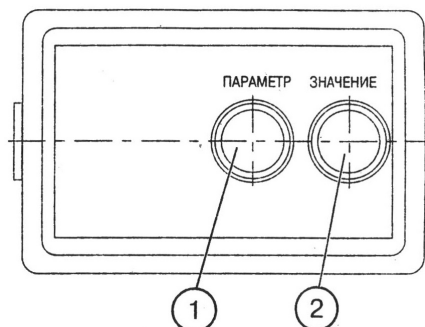

Fig. 2. Control board (A3):
- on setting the starter and instrument switch in position "I" when the tractor is stopped, the display (7) shows the engine running hours (5);
- when the tractor is moving, the display (7) shows the tractor speed indication (6) (km/h), while the indication (5) disappears. The electric signal of the speed comes from the speed sensors mounted on the rear axle cover (BV1, BV2). The speed readings are taken through a signal from the sensor mounted on the pinion of the final drive of the wheel rotating at lesser speed. The calculated speed is higher than the actual one, because no tractor skid is taken into account;
- on starting the engine, the pointer indicator (8) moves round the index dial (1) to display the rotational speed of the engine crankshaft. At the same time, the display (4) shows the PTO speed indication (rpm). The scale (3) is assigned to the PTO I and the scale (2) – to the PTO II. The electric signal of the rotational speed is taken from the phase winding of the alternator.
1.2. Tachospeedometer control board (Fig. 2)
- press the button (1) to enter the programming mode (Fig. 2).